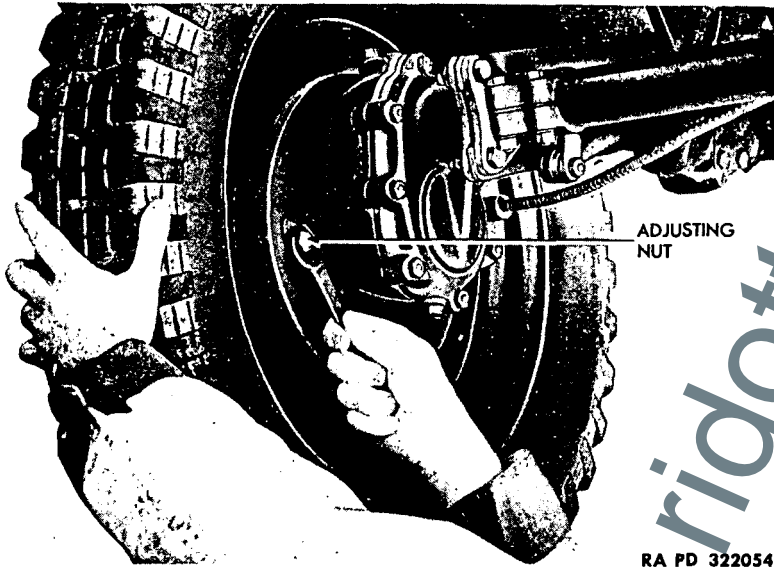
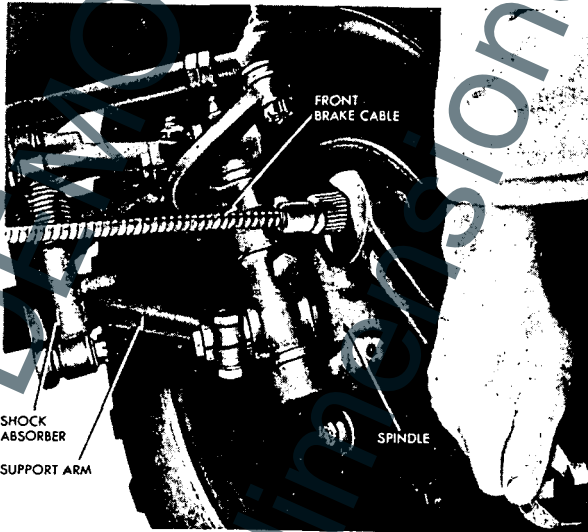

Figure 53—Adjusting Brake Shoes
Figure 54—Adjusting Brake Cable
b. **Adjustment.** A minor brake adjustment consists of tightening the adjusting wedge bolt (fig. 53). Turn the adjusting wedge bolt in one notch at a time until the desired brake action is obtained. If proper adjustment of the shoes cannot be obtained by this method, it indicates that the brake cable has stretched. Tightening the brake cable clamping nut (fig. 54) will shorten the cable and compensate for slight cable stretch.